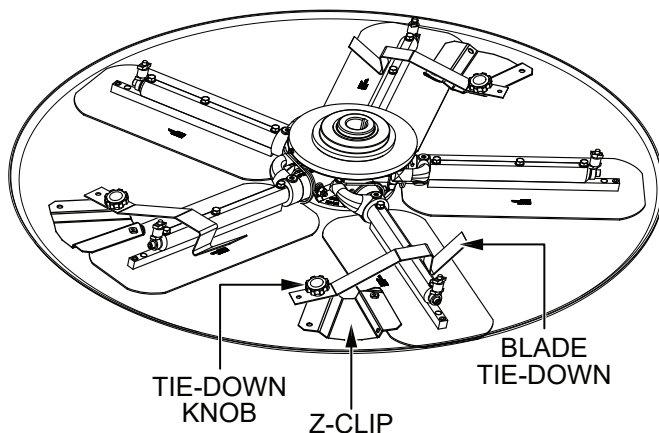

Figure 56. Float Pan Installation (Z-Clips)
3. Attach the blade tie-downs to the far side of the Z-clips using the tie-down knobs as shown in Figure 56.